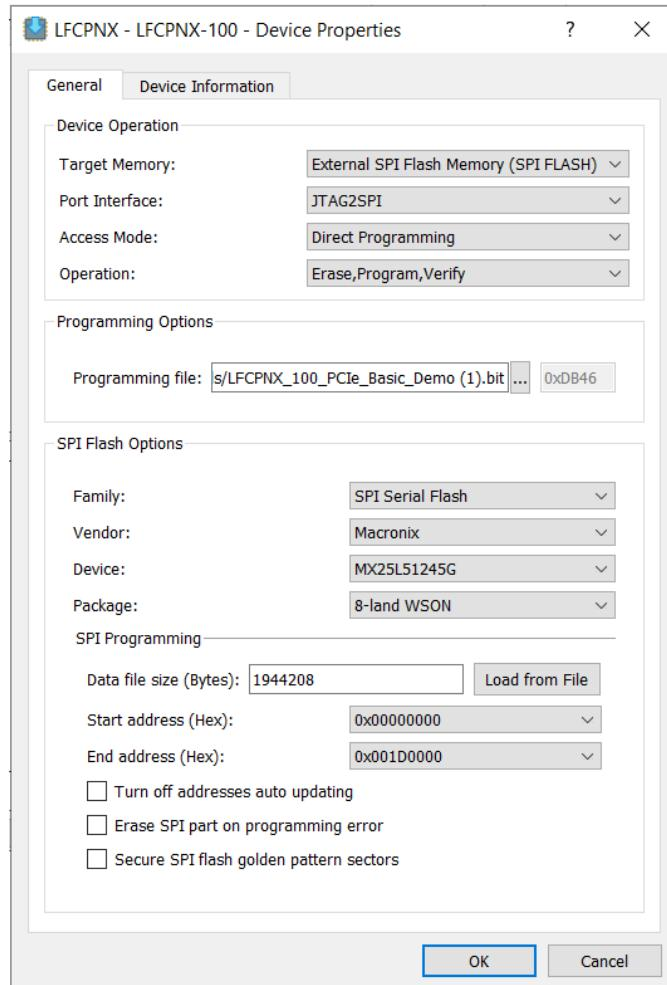

Figure 3.6. Device Properties Dialog for SPI Flash Programming Setting
- Click on **Fast Configuration** from the **Operation** column (Figure 3.5). The **Device Properties** dialog pops up (Figure 3.6). Change the **Target Memory** settings using the drop-down menu, and then you can see the device properties settings exactly as those shown in Figure 3.6.
- Browse to choose the programming file “LFCPNX_100_PCIE_Basic_Demo”.bit (Figure 3.6).